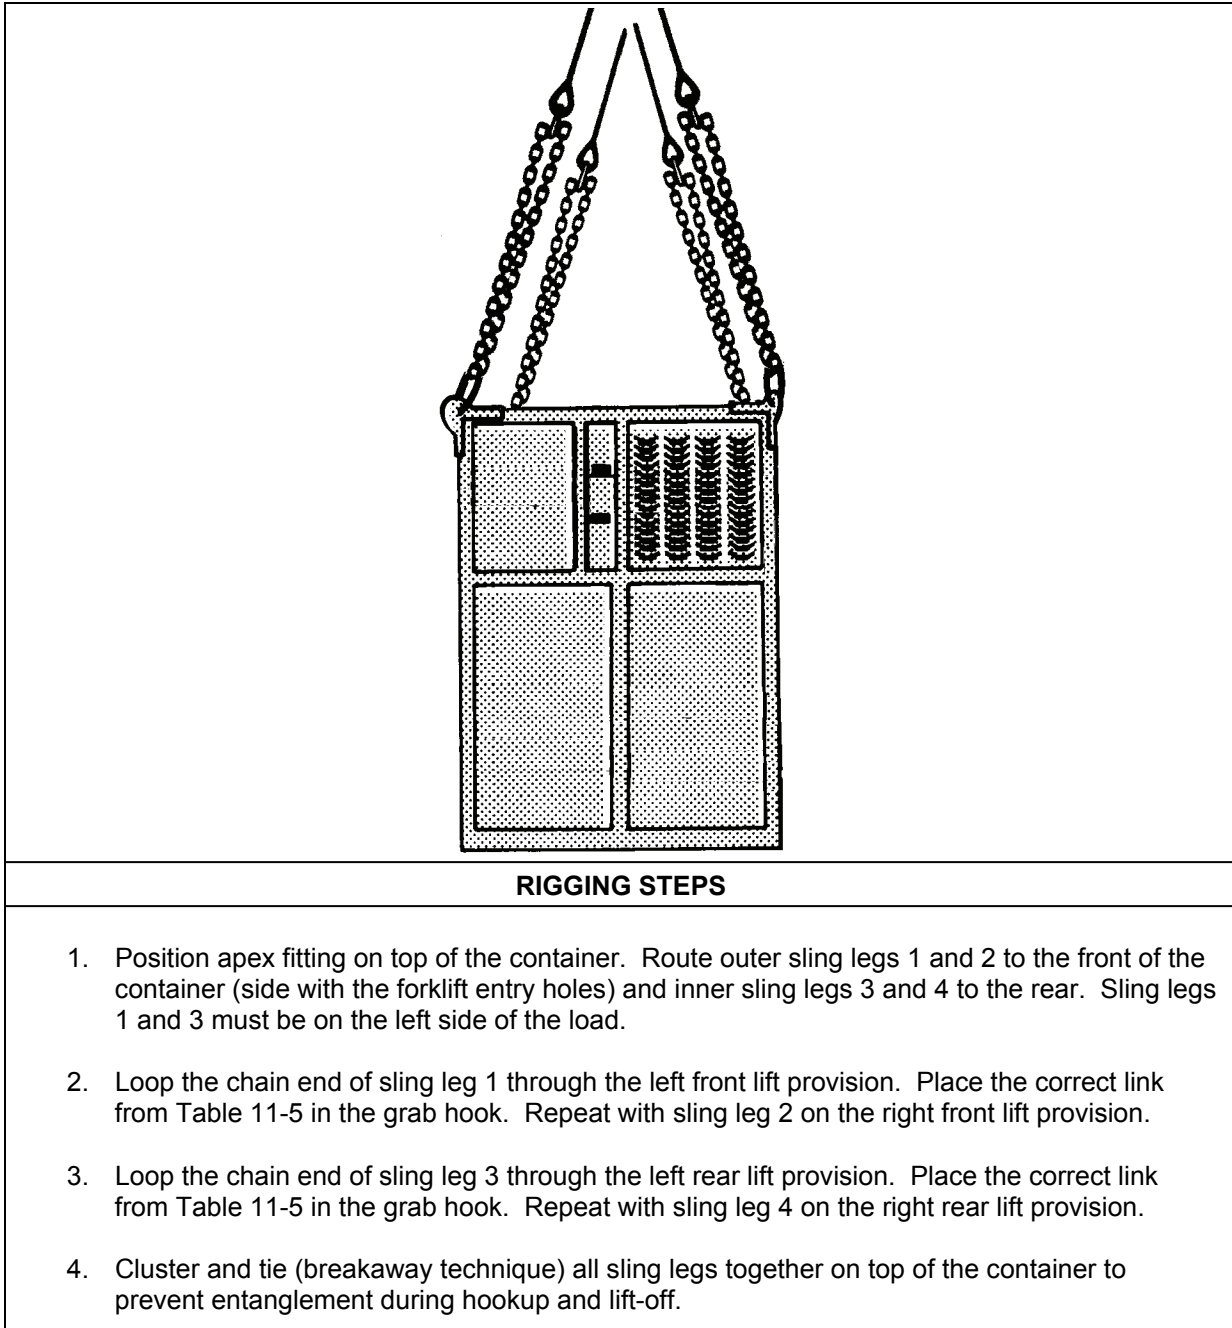

Figure 11-5. Field Medical Oxygen Generation/Distribution System
- **Rigging.** Rig the load according to the steps in Figure 11-5.